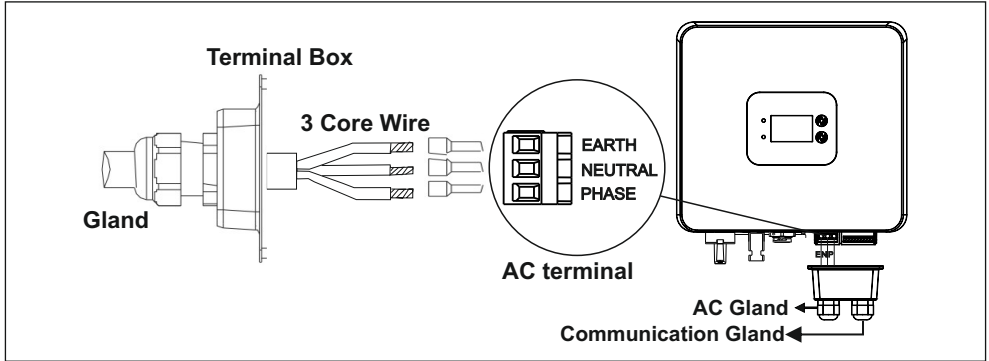

Fig 14
- 5) Fig 14 shows labels for AC connections.
- 6) Insert 3 core wire through AC gland and cover as shown in fig 14.
- 7) Make connections as shown in Fig 14.
- 8) Tighten the Terminal cover and AC gland properly as shown in fig 14.